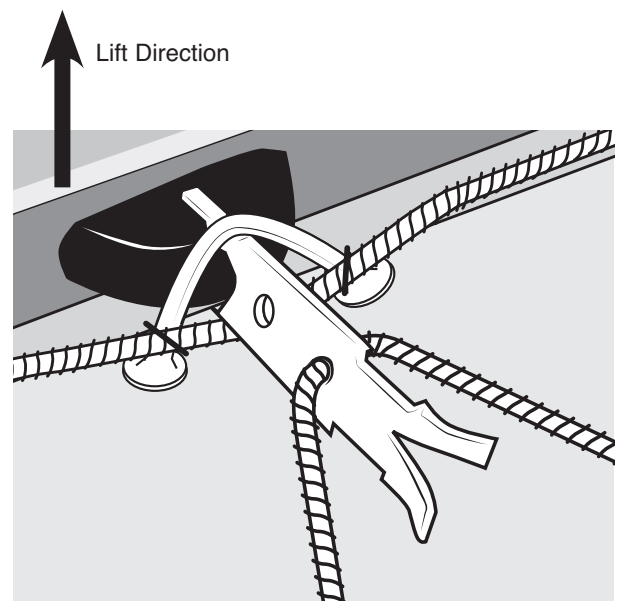

Fig 1.
- The anchor must be orientated at right angles to the face of the panel. (as per Fig 1)
- The specially designed Shear bar must be installed if shear loads are to be applied to the anchor. The feet of the Shear bar must be face away from the lift direction. (ref. Fig 1)